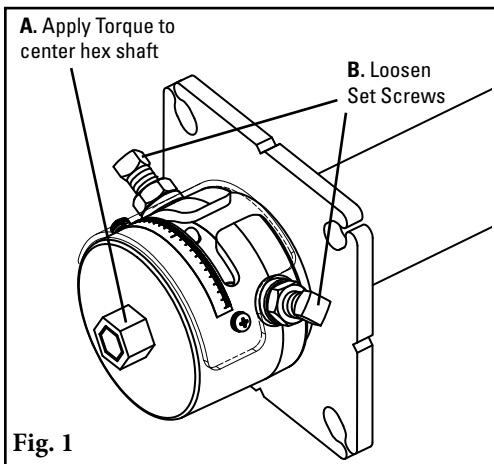

Fig. 1
1. **Remove the tension.** **WARNING:** Apply torque to center hex shaft prior to release of set screws (Fig. 1). Failure to do so will result in immediate tension release and can damage the mechanism.